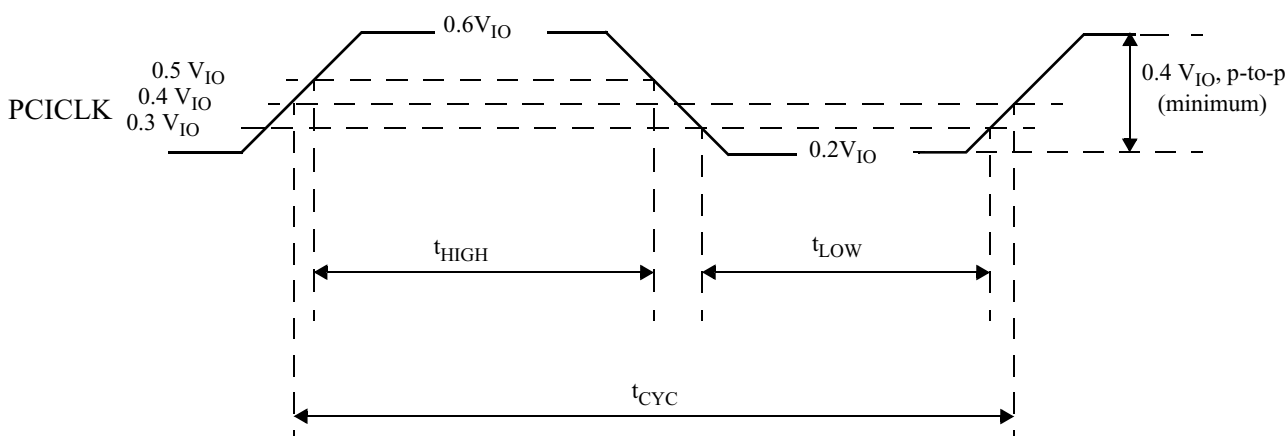

Figure 7-12 PCICLK Timing and Measurement Points
3. Slew rate must be met across the minimum peak-to-peak portion of the clock waveform (see Figure 7-12).
4. The minimum  $\overline{PCIRST}$  slew rate applies only to the rising (deassertion) edge of the reset signal. See Figure 7-12 for  $\overline{PCIRST}$  timing.